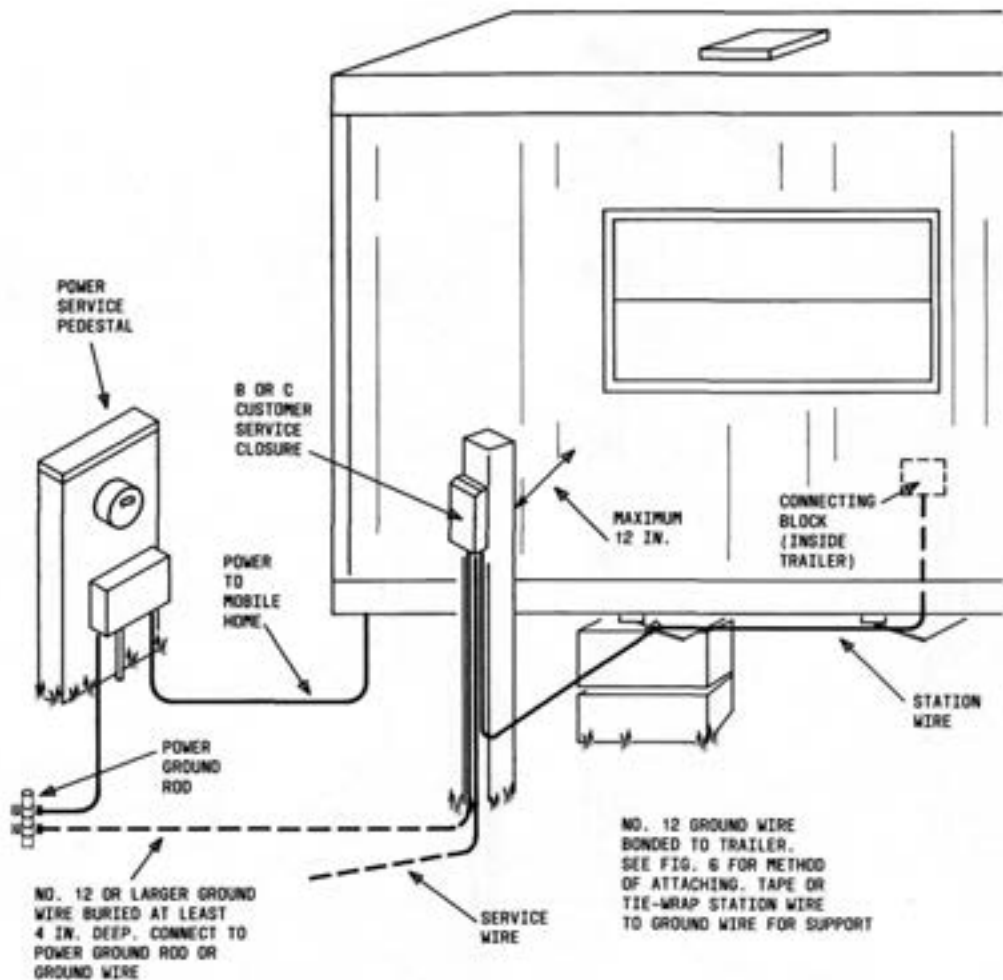

Fig. 3—Buried Service—Protector Located Within 12 Inches of Mobile Home—Protector Grounded to Power Ground
5.02 Where the protector is located within 12 inches of the mobile home, the bond wire may be run directly across the space between the mounting post and the mobile home (Fig. 3 and 4). However, where the protector is located more than 12 inches from the mobile home, the ground wire must be run down the post using approved fasteners and buried at least 4-inches deep between the bottom of the post and the mobile home (Fig. 5).